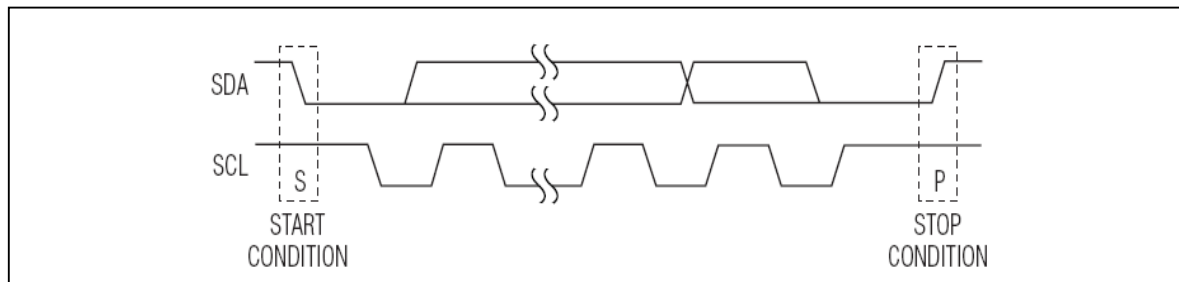

Figure 2 START and STOP Conditions
SDA operates as both an input and an open-drain output. A pull up resistor, typically 4.7k Ω , is required on SDA. SCL operates only as an input. A pull up resistor, typically 4.7k Ω , is required on SCL if there are multiple masters on the 2-wire interface, or if the master in a single-master system has an open-drain SCL output. Each transmission consists of a START condition sent by a master, followed by the IS31IO7325's 7-bit slave addresses plus R/W bits, 1 or more data bytes, and finally a STOP condition (see Figure 2).
Both SCL and SDA remain high when the interface is not busy. A master signals the beginning of a transmission with a START (S) condition by transitioning SDA from high to low while SCL is high. When the master has finished communicating with the slave, the master issues a STOP (P) condition by transitioning SDA from low to high while SCL is high. The bus is then free for another transmission (see Figure 2)